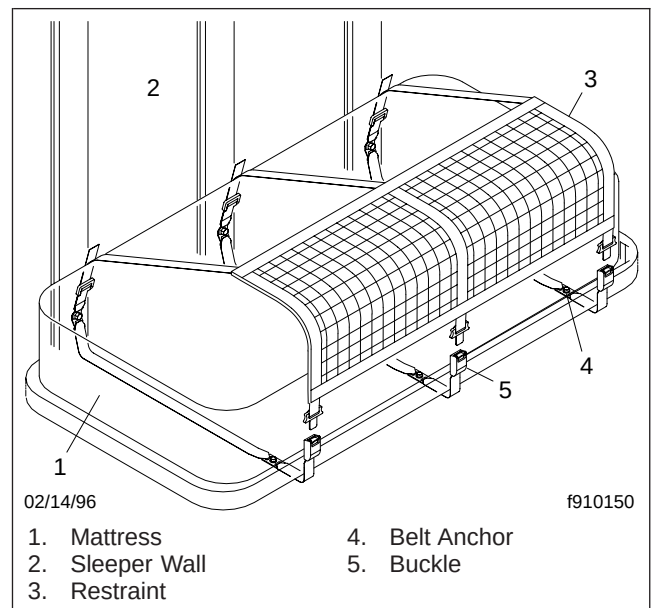

Fig. 5.13, Bunk Restraint
1. Starting at the foot of the bunk, pull up the link end of the belt far enough to engage the buckle. See Fig. 5.13.